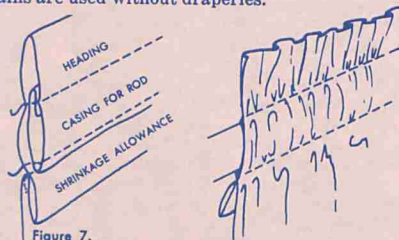

Figure 7.
(3) Cut the number of widths for each panel. Curtains hang better if the selvages are trimmed.
(4) Stitch all seams in the same direction. French seams are desirable for sheer fabrics. Loosely woven fabrics should have finished seams if a plain seam is used.
(5) Turn under side hem one to two inches. Baste, press, and stitch by hand.
(6) Turn under amount for heading and casing. Shrinkage allowance is machine stitched under casing. Figure 7).
(7) Pin bottom hems. Press, and hand stitch.